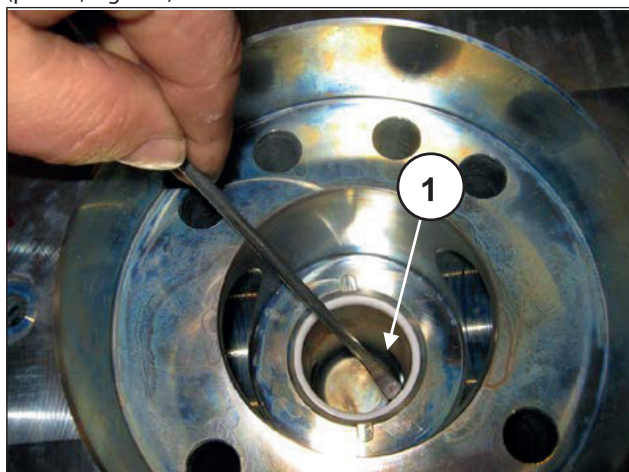

Fig. 178
It is recommended to replace them after each disassembly (pos. ①, Fig. 178).